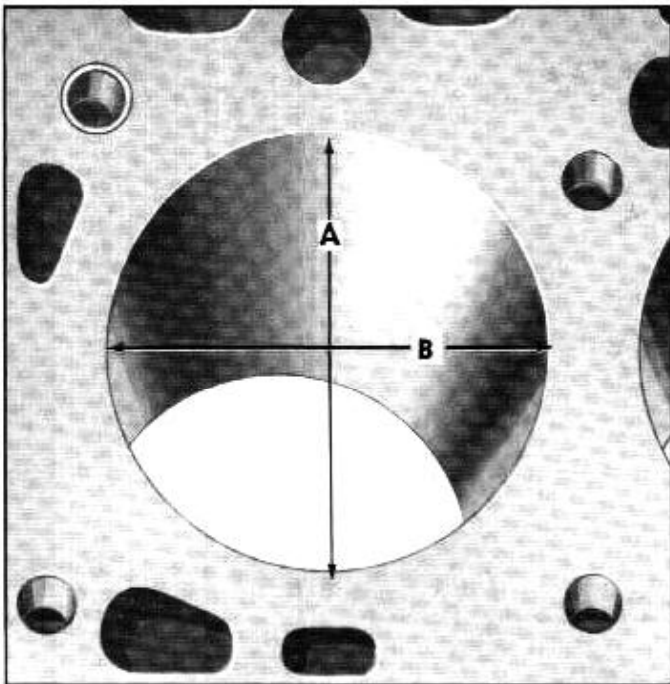

Fig. 6C-75—Measurement of Cylinder Out-of-round
ring travel at right angles to the centerline of the crankshaft (A) see figure 6C-75. Record readings. Next, measure each bore so gauge reading coincides with centerline of crankshaft (B). The difference between the readings is the out-of-round condition at the top of the cylinder bore. Repeat this same procedure at the bottom of the ring travel to check for out-of-round. The difference between the diameters measured at the top (A) and bottom (B) of the bore (at right angles to the centerline of the crankshaft) is the taper of the bore. See figure 6C-76.